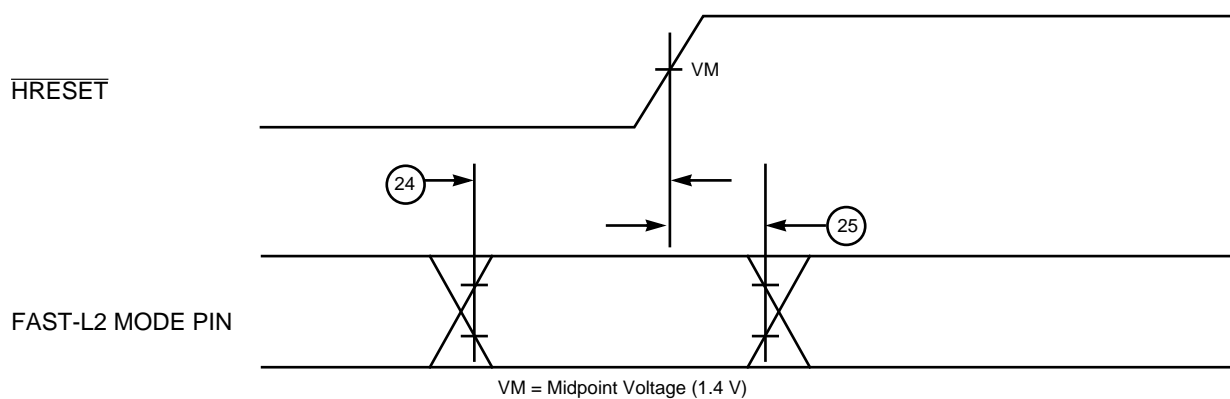

Figure 3. Fast-L2 Mode Select Input Timing Diagram
2. The setup and hold time is with respect to the rising edge of HRESET. See Figure 3.